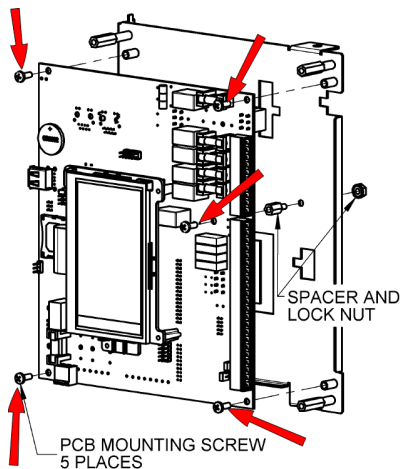

Figure 2 *Swing-out mounting plate*
2. Remove the five Phillips screws (see Figure 2). You will need to do this for both boards, starting with the old controller first.